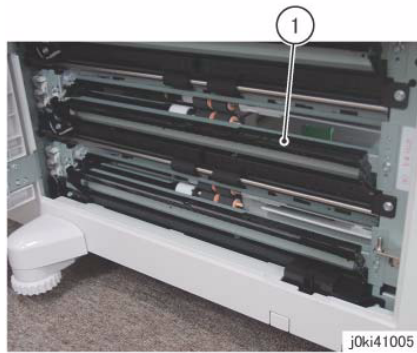

Figure 1 Remove the Feed Out Chute
5. Remove the Feed Out Chute. (Figure 1)